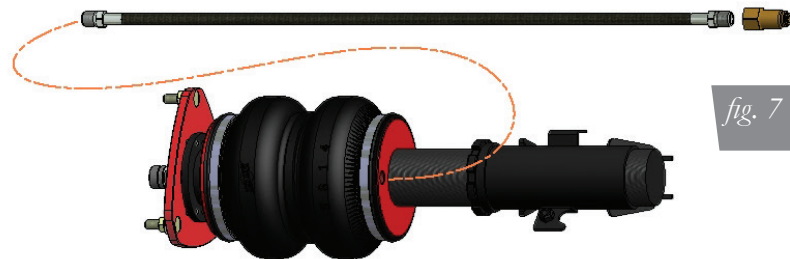

fig. 7
1. Begin by installing the leader line into the air spring (fig. 7). Wrap the threads of the leader hose with Teflon tape or thread sealant. Tighten the appropriate fitting to the airline $1 \frac{3}{4}$ turns beyond hand tight. Tighten the leader line into the air spring $1 \frac{3}{4}$ turns beyond hand tight.